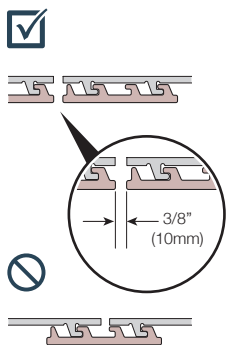

FIG. V5
4. Spacing between SLAT profiles in the same plane must be 3/8" (10mm) to maintain a 3/8" open joint size between panels (FIG. V5). Slats must also be attached to the same SLAT Profile.